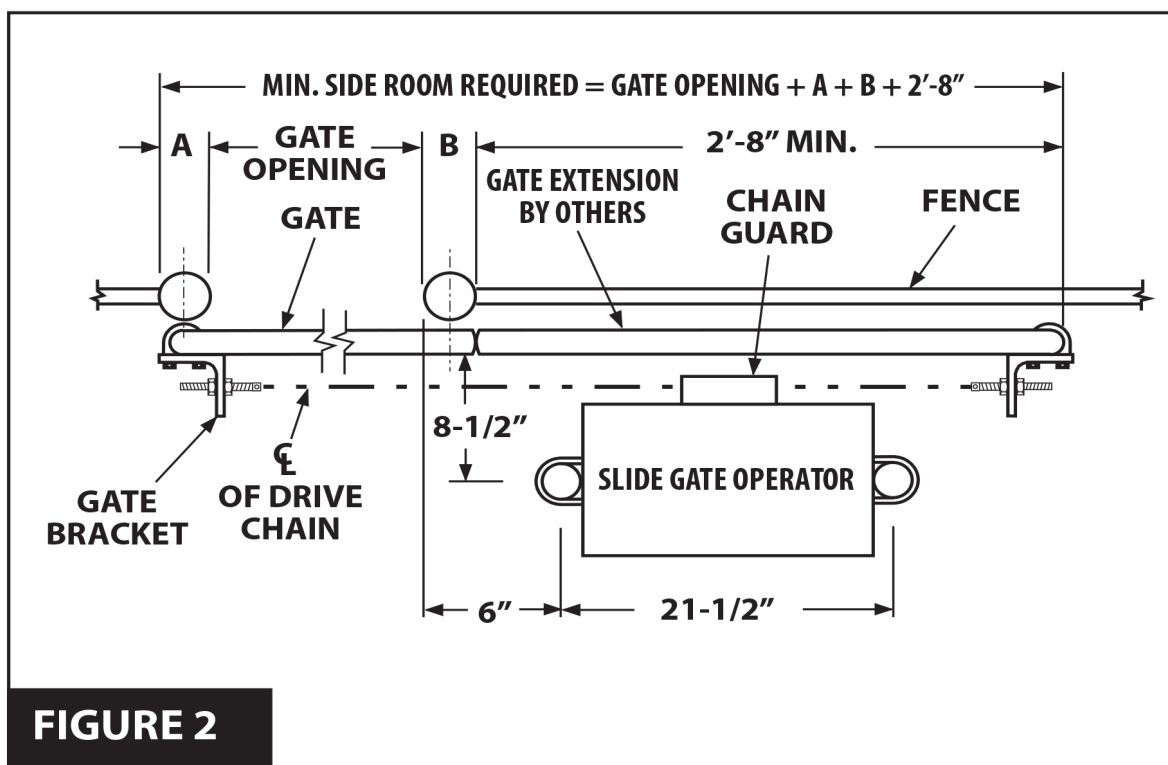

FIGURE 2
1. Layout mounting post and electrical conduit locations as shown in **Figures 2 & 3** below.
1. Remove operator top cover and chain guard for access. If gate extension is required, do so before installing operator. See **Figure 2**.